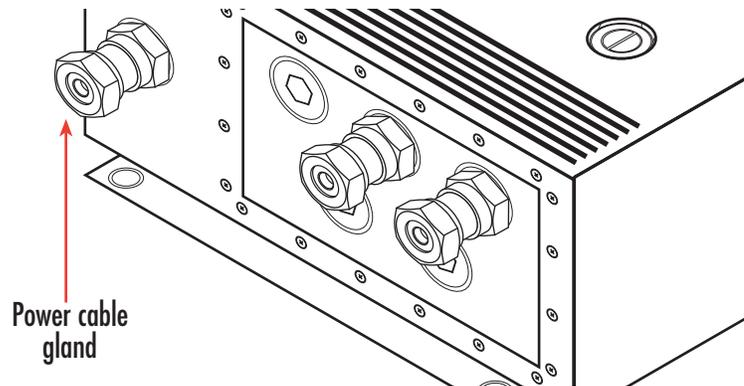

Figure 5. Gland designated for the power cable
You should run the power cable through the brass gland that is placed to the far left on the bottom panel of the EnviroNET. (See figure 5). The steps to wiring the power include: running the power cable wires through the gland, and connecting the power cable wires to the EnviroNET unit.
1. Locate the gland that the power cable should be run through. (See figure 5).